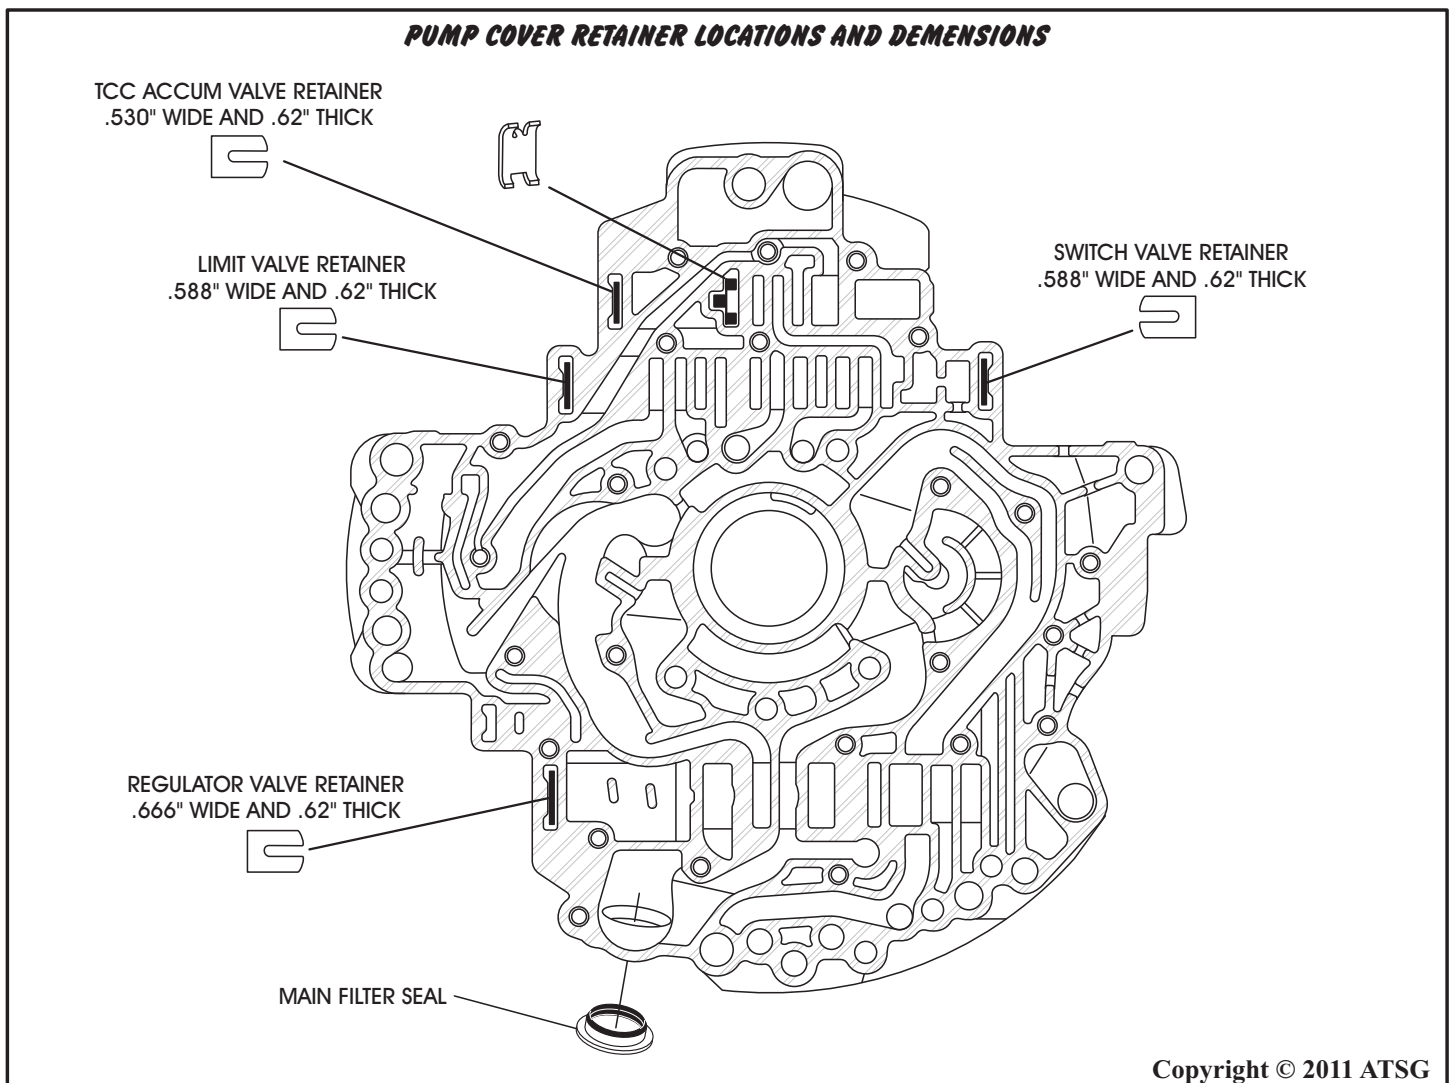

Figure 112
Note: The valve line-up retainers are different sizes for the different locations and the sizes are shown in Figure 112, along with the exact cavity locations for the various retainers.
7. Install new main filter seal into the oil pump cover using the proper driver (See Figure 112).